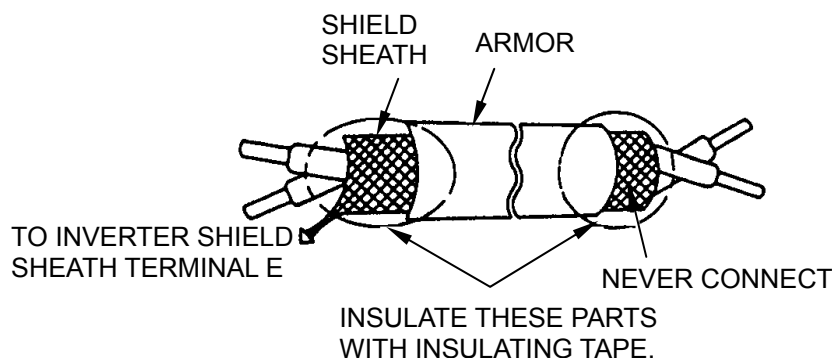

Fig. 4 Shielded Wire Termination
- (1) Separation of control circuit leads and main circuit leads: All signal leads must be separated from main circuit leads L1 (R), L2 (S), L3 (T), \oplus , \ominus , B2, T1 (U), T2 (V), T3 (W) and other power cables to prevent erroneous operation caused by noise interference.
- (2) Control circuit leads ⑨, ⑩, ⑱, ⑲, ⑳ (contact output) must be separated from leads 1 to 8, ㉑, ㉒, ㉕, ㉖, ㉗ and ⑪~⑰.
- (3) Use twisted shielded or twisted pair shielded wire for the control circuit line and connect the shield sheath to the inverter terminal E to prevent malfunction caused by noise. See Fig.4. Wiring distance should be less than 164ft (50m).